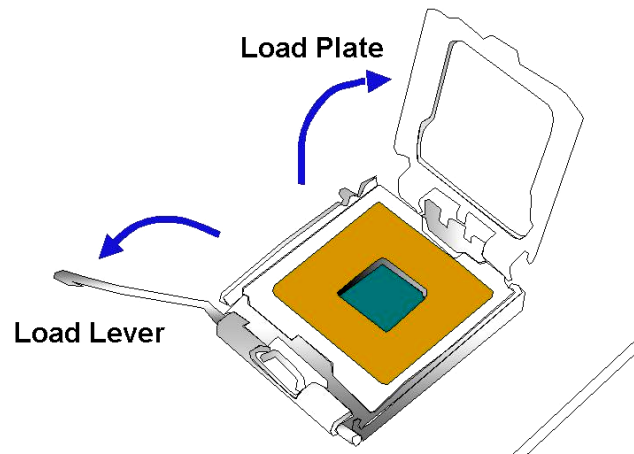

Figure 5-3: Open the CPU Socket Load Plate
Step 2: Open the socket. Disengage the load lever by pressing the lever down and slightly outward to clear the retention tab. Rotate the load lever to a fully open position. Then rotate the load plate towards the opposite direction. See Figure 5-3.